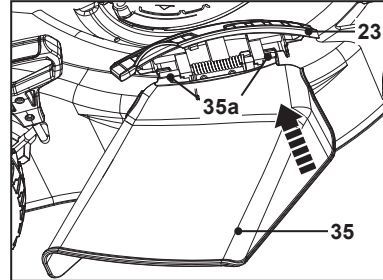

Fig. 22
4. Align and hang the hooks (35a) of the side discharge attachment (35) onto the rods (Fig. 22). The side discharge attachment (35) is ready for use.